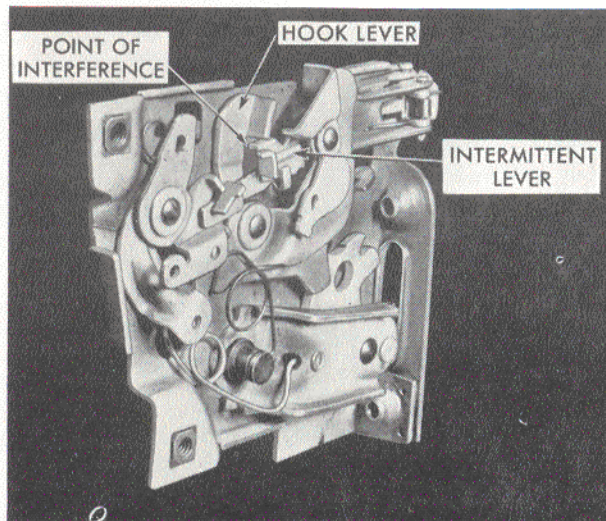

Fig. 1
3. Check the accessibility of the door lock intermittent lever (fig. 1) through the opening between the door inner and outer panels.